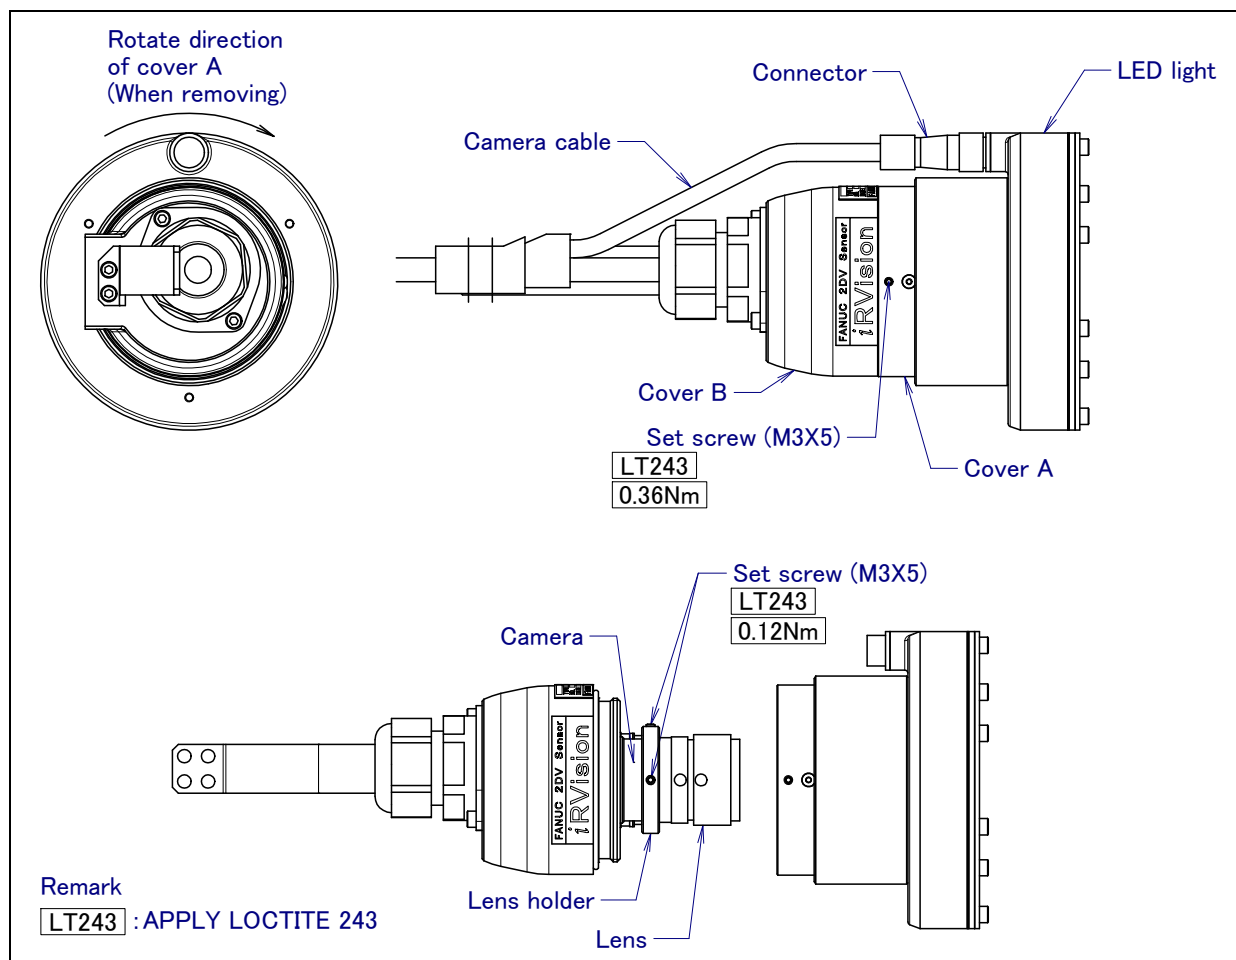

Fig.7.3.3 Replacing the lens
Replacing the lens allows a different focal distance that changes the vision range of camera package. The procedure is shown below (See Fig.7.3.3.)
- 9 Install the set screw of cover A. Apply LOCTITE 243 to the thread of the set screw and tighten it to the torque shown in fig.7.3.3.